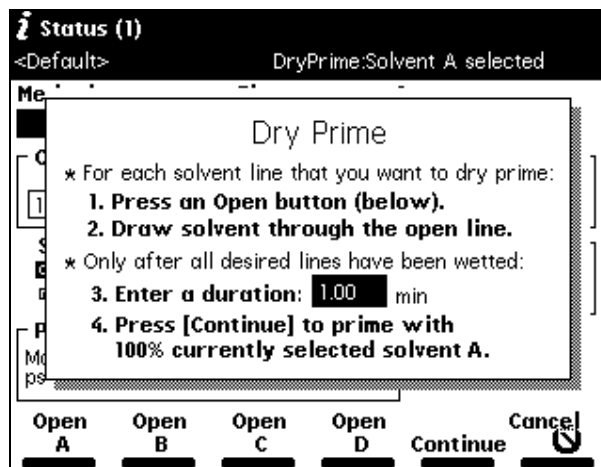

Figure 2-4 Dry Prime Dialog Box
7. Select **Dry Prime**, then press **Enter**. The Dry Prime dialog box appears (Figure 2-4).